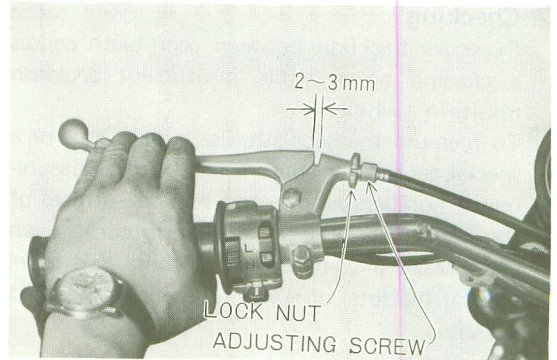

Fig. 4-9-15
- b. To reduce the play of the cable, loosen the adjusting screw, and to increase the play, tighten the screw. Adjust clutch lever free play to 2 ~ 3 mm. (Fig. 4-9-15)
B. Adjustment on the upper part of the clutch cable. (Refer to Fig. 4-9-15)